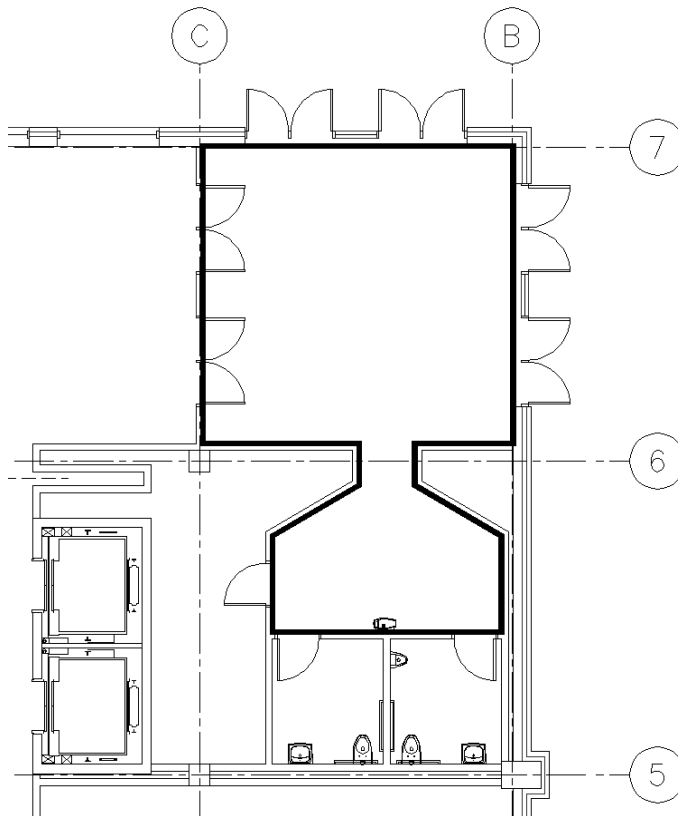

Figure 3-4.1 Adding a polyline at the vestibule
4. Using the **Polyline** command, draw an enclosed area in the Vestibule as shown in Figure 3-4.1.